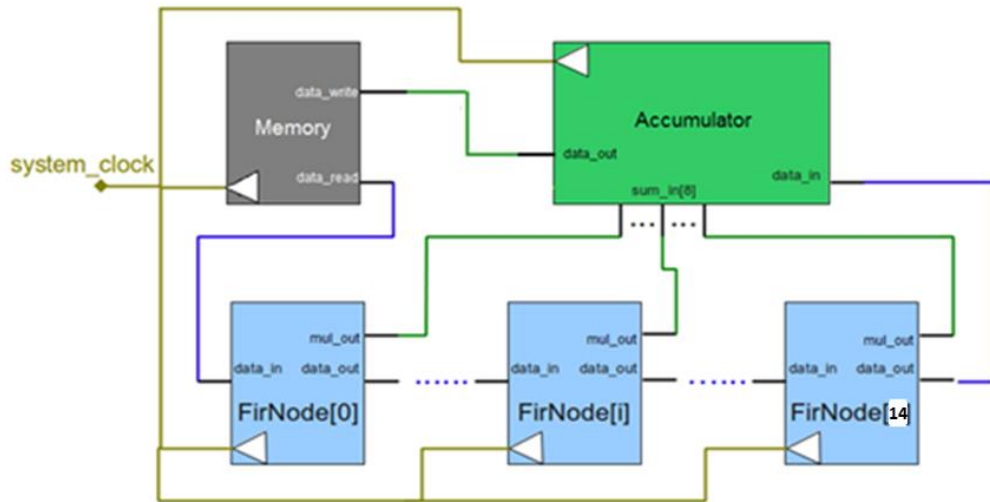

Figure 1. Diagram of 14-tap FIR filter
**Q2. (50 points)** In this question, we will construct a simple 14-tap finite impulse response (FIR) filter with SystemC. This FIR filter has a memory module to provide data as input for FIR nodes. On each positive clock edge, a FIR  $x$ . Within the same cycle, each FIR node writes received data into its data output port connected with next FIR node so as to right shift data among FIR nodes. The task of the *accumulator* module is to sum up each cycle's multiplication results of FIR nodes and write the result into memory (see Figure 1). Ultimately, the result will be: